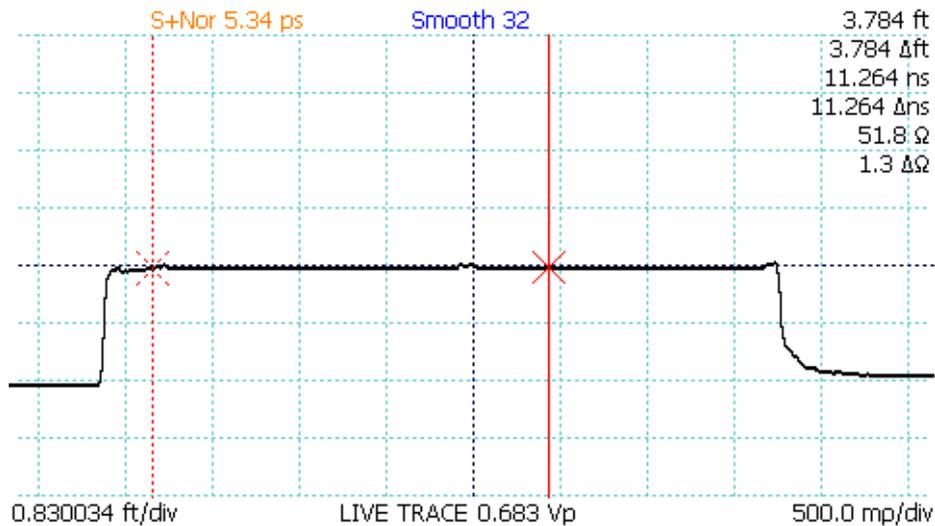
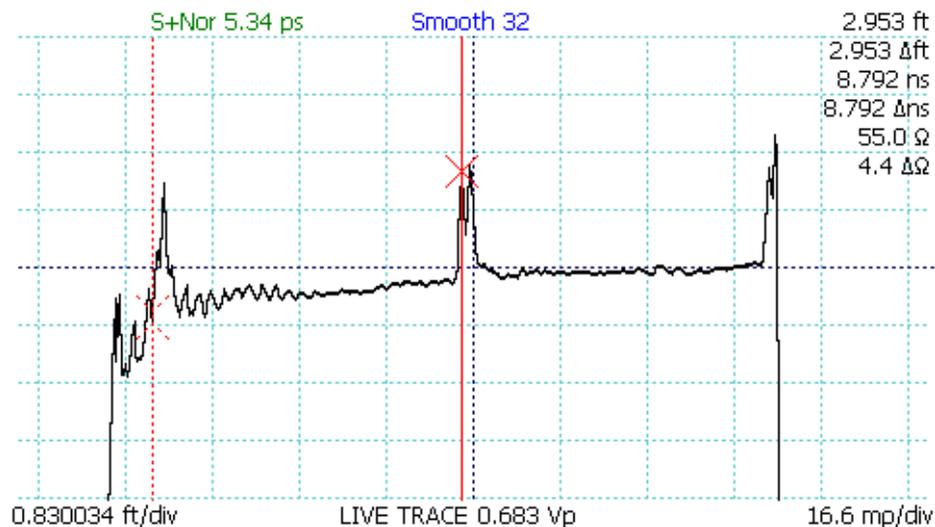

Figure 4.9. AUTOFIT cable. The cable termination is a short.
Figure 4.10. Vertical scale used to emphasize cable fault.
3. Depending on the *Main* menu being used, either press *MENU* → *Distance to Fault* (*Special Main* menu only) or press the *AUTOFIT/HELP* → *AUTOFIT* menu option. The CT100B trace is now scaled to show the entire cable from beginning to end. See Figure 4.9.
- Note the “bump” in the middle of the cable in Figure 4.9. This is where two short test cables are connected with a BNC barrel connector. Position the active cursor on the reflection caused by this cable fault. Adjusting the vertical scale helps make cable faults more obvious, as in Figure 4.10, which is at the same horizontal scale as Figure 4.9 but zoomed-in vertically. By positioning the inactive cursor just before the connector, we can see the delta value of $\sim 4.4 \Omega$ impedance change in the connector vs. the impedance of the cable.